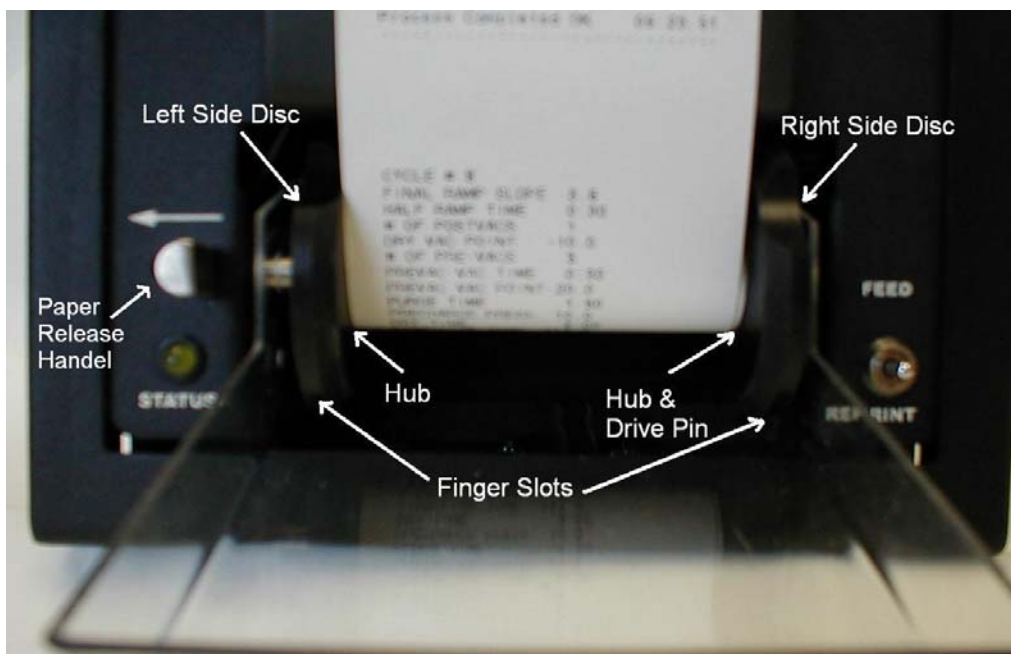

Figure 4.1.1-1 Loading Printer Take-Up Spool (Cybertech Printer)
1. The removable spool snaps between the two rotating discs (see Figure 4.1.1-1, Loading Printer Take-Up spool). The slot in the removable spool must be aligned with the drive pin on the right side of the disc.